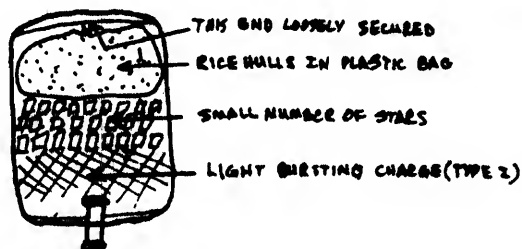

Figure 1
The stars and bursting charge are all placed in the bottom half of the casing, the top half being filled with rice hulls or other nonflammable material. (see Figure 1). To achieve the hemispherical, drooping effect, a very light bursting charge is used (only about 5 grams for a 3" shell) and the shell is especially strung. The half that contains the bursting charge is given a triple amount so only one end is blown out (see Figure 2). The shell is then finished as normal. Type I burst.
**Regular Multiple Break Shells--** The usual number of breaks is two, three, or four. Any type of shell may be used for any break. If salutes are used, they are usually used for the last break. The length of each casing of a 9" two-break shell is 2-1/2"; a three-break shell has three shell casings, each 2" long; a four-break has four casings, each 1-1/2" long. In general, the total length of all the smaller shells put together should not exceed 6" (for 3" shells). Each shell is made, filled, strung, etc., as when making any type of single break shell, except the casings are shorter, and each end closure has a 3/8" diameter hole in its center (if a 3/8" diameter time fuse is used). One end closure has the time fuse secured as normal; the other end closure has the time fuse of the next shell protruding through the hole, see Figure 1.
Each shell is joined to the next by three or four turns of Kraft paper, about 3" wide-1-1/2" on each shell, see Figure 1. Make sure to use plenty of force when rolling the two shells together in this band of paper. Smear an entire side with thin Prof. Pyro. Ad. instead of paste, and then roll up tightly.